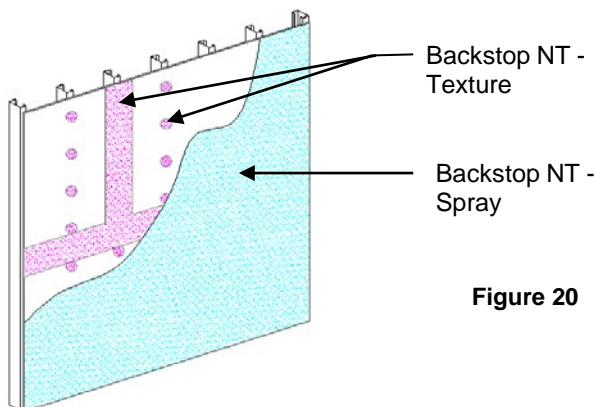

Figure 20
- a) Airless spray equipment must be capable of providing minimum 3000 psi and minimum material flow of 1 gallon per minute with a minimum .021 spray tip. **NOTE: OSB sheathing requires that joints and fasteners be treated with Backstop NT – Texture. Two (2) coats of Backstop NT – Spray are required for the field of the wall. Backstop NT Texture is not recommended for application in the field of the board.**
- 1) Backstop NT - Spray material should be applied in a uniform, continuous film at the recommended coverage rate free of voids and pinholes – Figure 20. **NOTE: Sheathing substrates with a surface texture or high porosity will require additional material.**